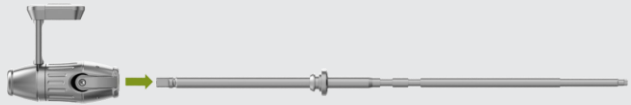

Fig. 2 Attaching Navigation tracker to navigated shaft instrument.
- 1) Attach the corresponding Navigation tracker to the respective Navigation Instrument (awl, probe, tap or SD Inner Shaft) until it snaps into place, make sure that the Navigation tracker is securely connected to the respective instrument (Fig.2).